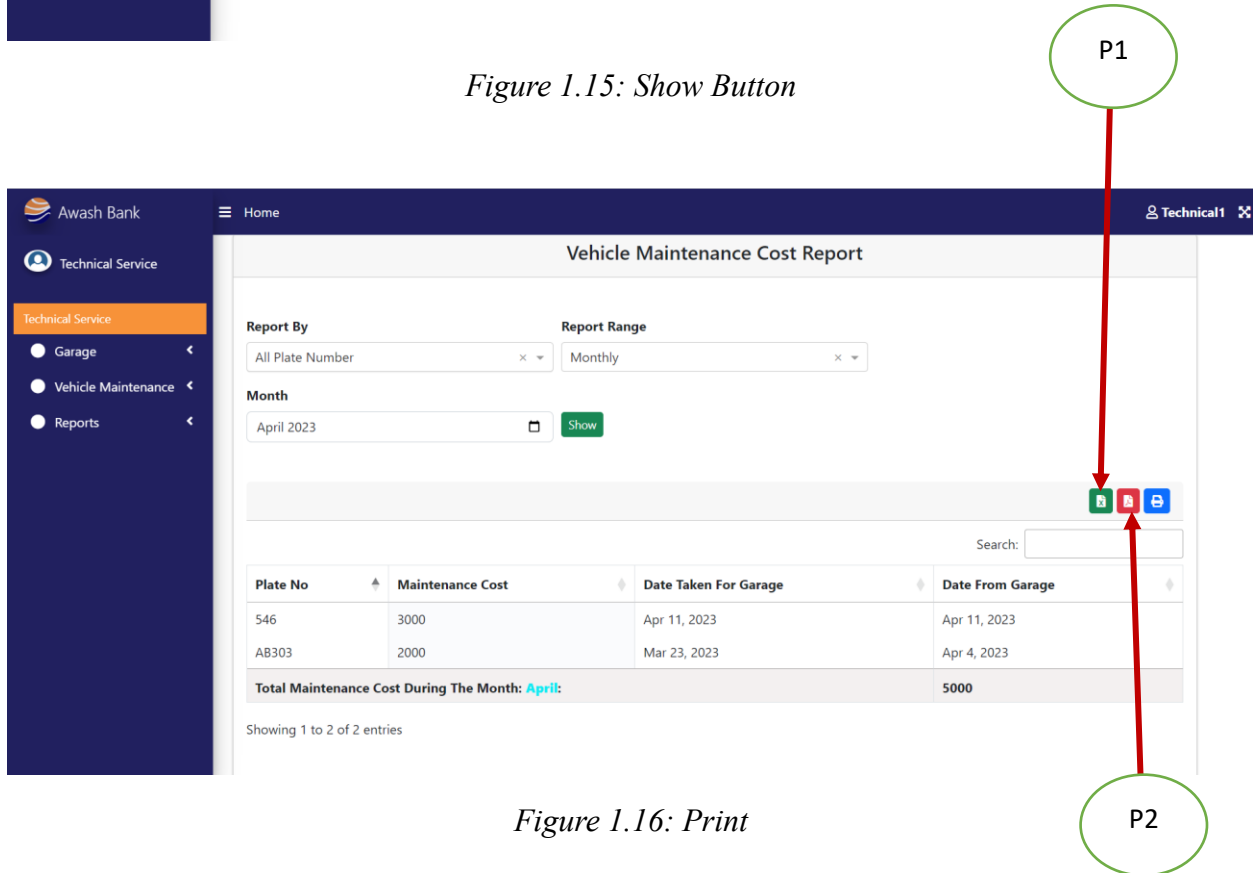

Figure 1.16: Print
- Print the total maintenance cost either in Pdf(P1) (Fig:1.16) or in Excel(P2) (Fig:1.16) form